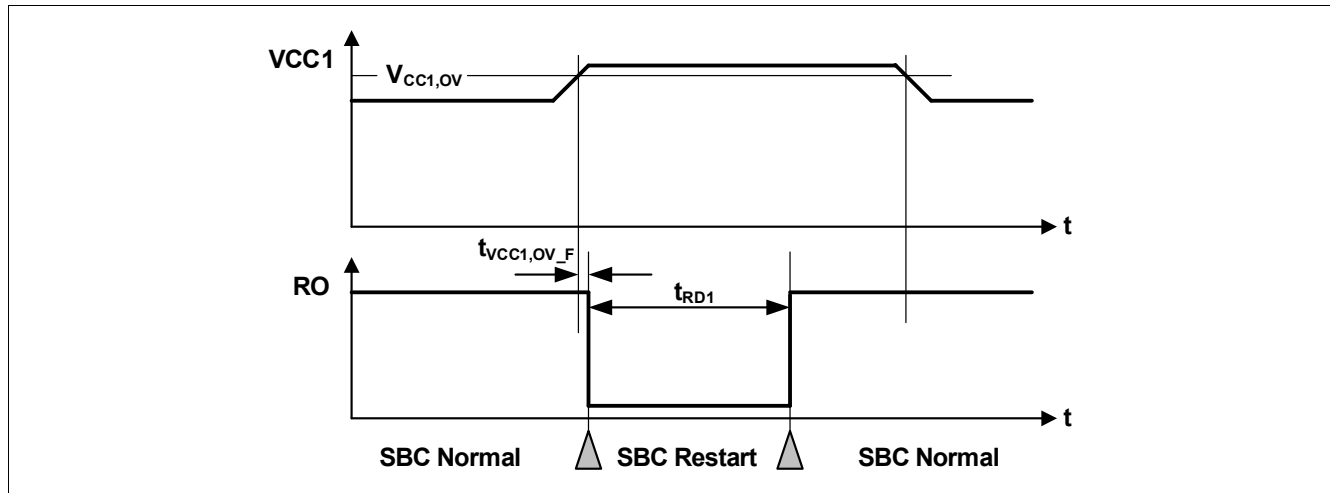

Figure 47 VCC1 Overvoltage Timing Diagram
- If the bit **VCC1_OV_RST** is set and **CFGP** = '1', then SBC Restart Mode is entered. The FOx outputs are activated. After the reset delay time (t_{RD1}), the SBC Restart Mode is left and SBC Normal Mode is resumed even if the VCC1 overvoltage event is still present (see also **Figure 47**). The **VCC1_OV_RST** bit is cleared automatically;